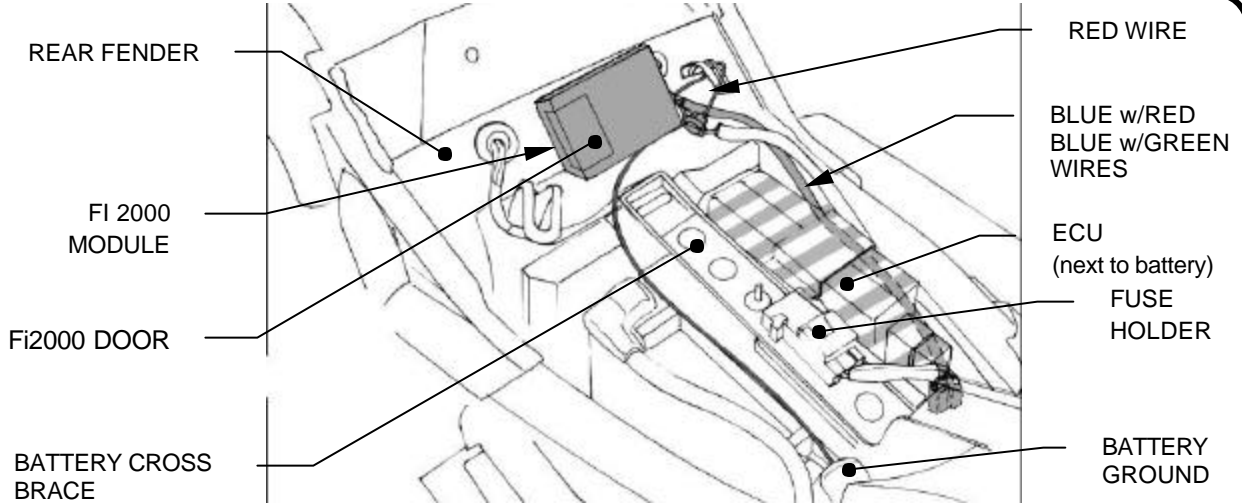

FIGURE 1
2. Remove the battery cross brace by unscrewing the phillips head screw and unattaching the fuse box from the brace. See figure 1.
3. Locate the ECU next to the battery and lift it straight up and out to locate the BLUE w/RED stripe wire and the BLUE w/GREEN stripe wire on the harness going to the ECU. Attach a t-tap connector to each of these wires about an inch from the connector on the ECU. See figure 1
4. Plug the Fi2000 module's BLUE w/RED stripe and BLUE w/GREEN stripe wires to the corresponding ECU wires with the t-tap connectors and replace the ECU to its original location. Make sure to route the wires so they do not get pinched by the seat when installed. See figure 1.
6. Locate the RED wire at the tail light harness plug (the wire harness goes through the grommet in the rear fender). and attach a t-tap connector there. See figure 1.
7. Attach the Fi2000 module's RED wire to the t-tap connector installed in step 6 and the BLACK wire to the negative post of the battery. Make sure to route the wires so they do not get pinched by the seat when installed as shown in figure 1
8. Remove the backing from the Velcro and attach the Cobra module on the rear fender between the two grommets as shown in figure 1.
9. Before re-installing the seat, verify your connections. Remove the door from the Fi2000 box to expose the LED's. Verify the wire connections by (1) turning the ignition on, prior to starting, and see if all three LED's are on steady. If you have no light, either your ground connection (BLACK wire) is not solid or, (more likely) your RED wire connection is incorrect. You have either tapped on the wrong wire or the tap has not made contact. (2) After achieving a steady light from all three LED's, start the motorcycle and let it idle, the green light should now be the only LED on. If all three LED's are still on after start up, your BLUE w/RED stripe wire connection is incorrect; if all three LED's are flashing, your BLUE w/GREEN stripe wire connection is wrong. Again verify correct color and tap contact. Reattach the door when finished. **Note:** Make sure the ignition is turn off before changing any connection.